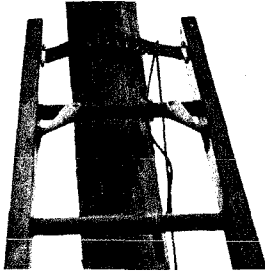

Fig. 9 — Handline in Back of Ladder
- (b) Raise the ladder to the proper height and position. The handline will be hanging to the back of the ladder (see Fig. 9).